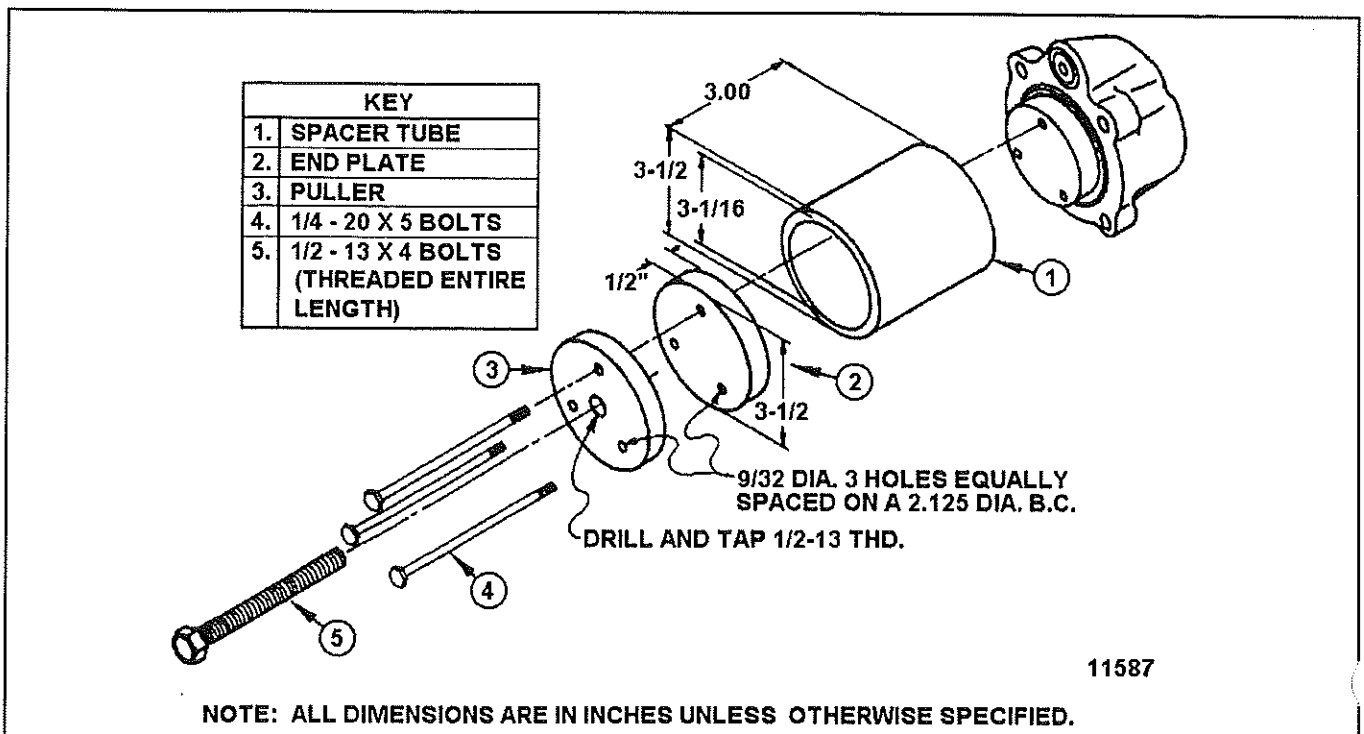

FIGURE 2 - PISTON PULLER TOOL
2. Pressurize the piston housing to disengage the pistons from the adjuster sleeves (10). It is recommended that a C-clamp be placed over both pistons, tightened, then backed-off slowly as pressure is applied, allowing the pistons to emerge from piston housing slowly and evenly.
NOTE: *The pistons may also be removed by using a piston puller tool (Figure 2). Prior removal of the insulators (15) from the piston, as outlined in step 3 of this procedure, is required if piston puller tool is used.*
3. If the insulators (15) are damaged and require replacement, disassemble from the pistons (13) by removing the three attaching bolts.